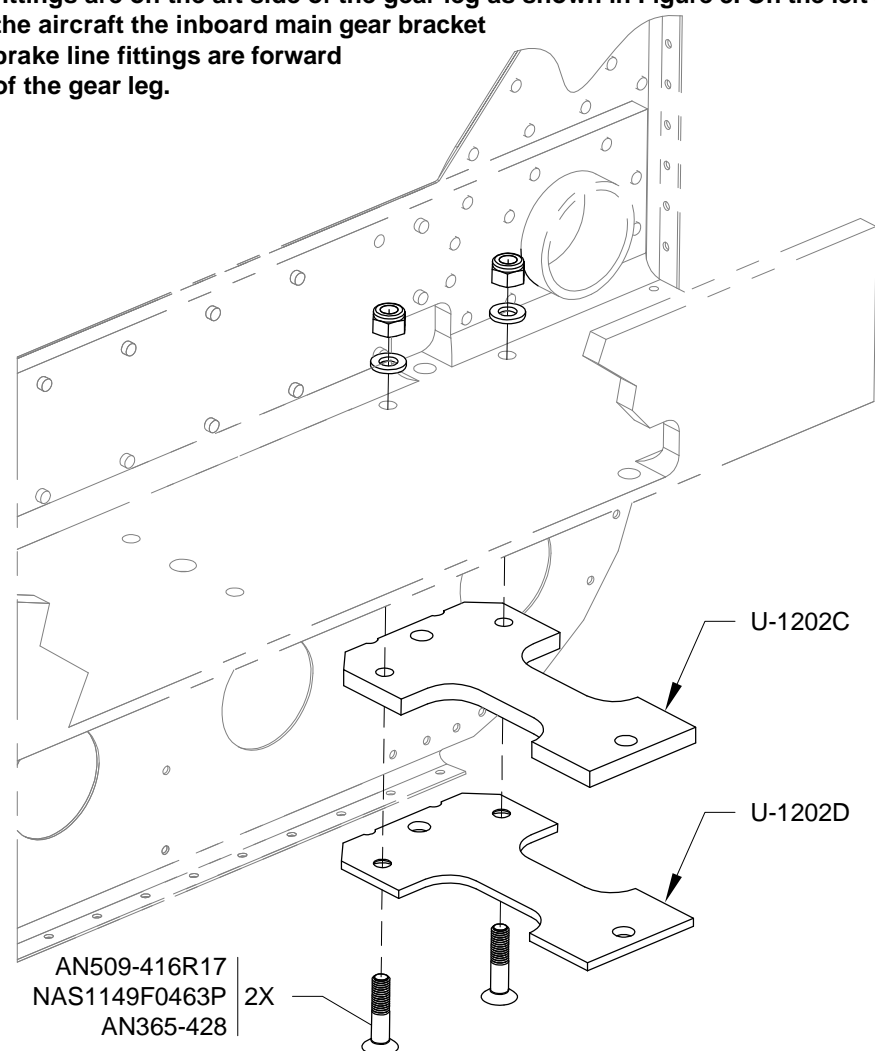

FIGURE 1: WEAR AND DOUBLER PLATE ATTACH
Step 3: Install the U-1202C Outboard Doubler Plate and U-1202D Outboard Wear Plate to the F-1204 Center Section Assembly as shown in Figure 1. Use two temporary AN5 bolts as alignment pins to assure alignment while torquing the nuts on the screws.